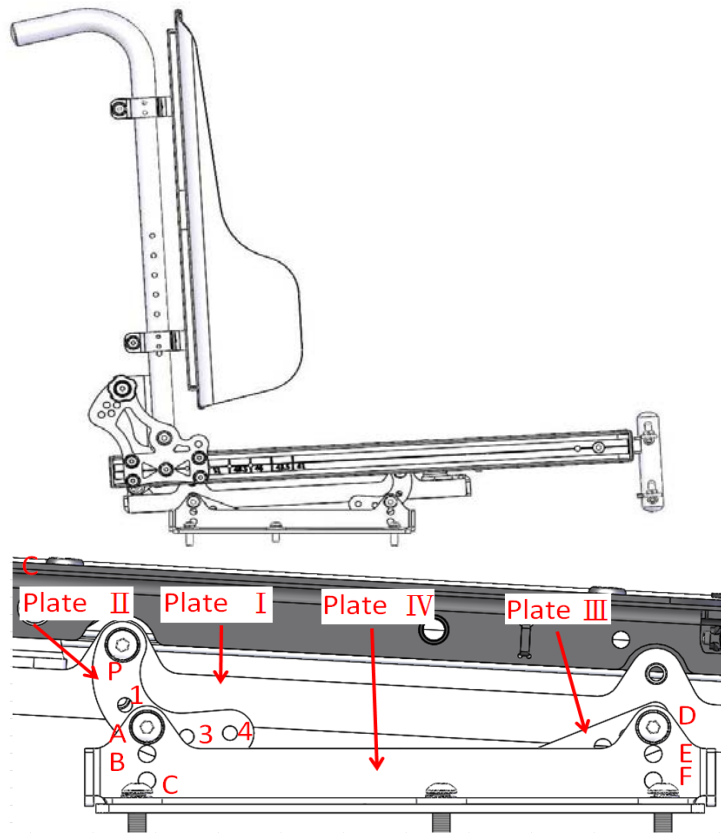

Figure 5-93
5.3.6.5 KISS Seat without Tilting option is shown as Figure 5-93